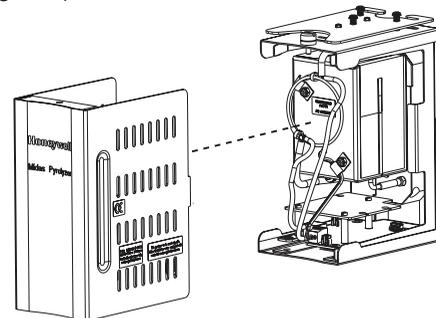

Figure 8: Removing the front cover
- Slide the front cover out of the C-enclosure (see Figure 8).